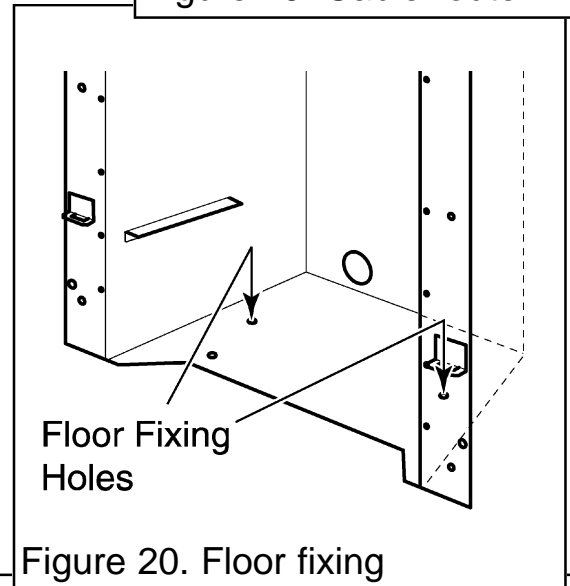

Figure 20. Floor fixing
8. Drill a hole into the fireplace floor through each of the two holes in the base of the hotbox using a suitably sized masonry drill bit for the fibre plugs supplied (See figure 20).